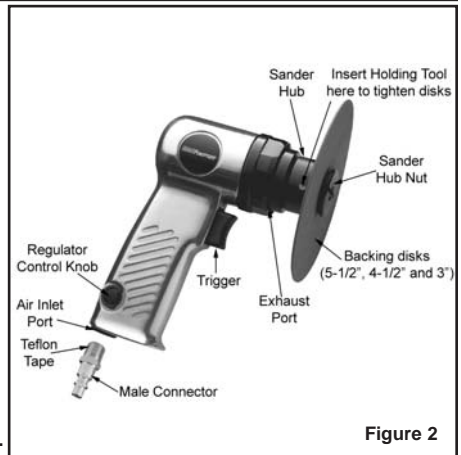

Figure 2
2. Install a 1/4" NPT male connector (not included) into the air inlet port on the tool (see Figure 2). **Note: Use Teflon® Tape on all threaded connections.**